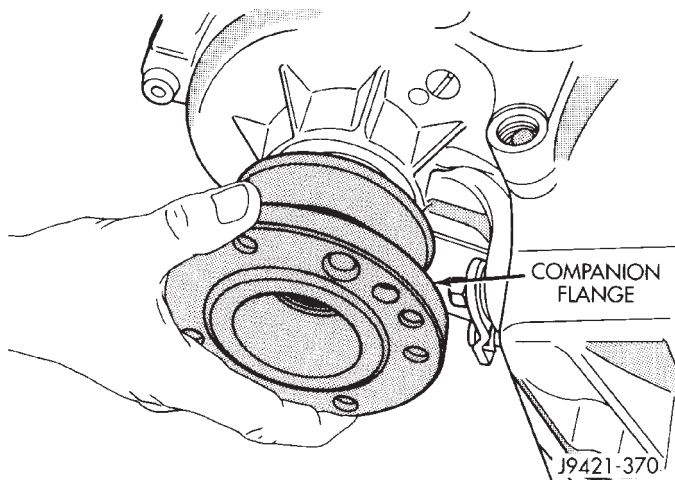

Fig. 13 Installing Companion Flange On Front Shaft
(3) Install companion flange on front shaft (Fig. 13). Then install and tighten flange nut to 176-271 N·m (130-200 ft. lbs.) torque.